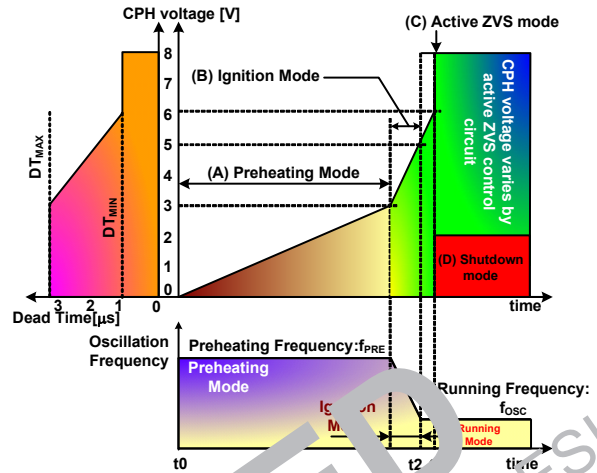

**Figure 19. LCC Transfer Function in Terms of Lamp Impedance**
The transfer function of LCC resonant tank is heavily dependent on the lamp impedance,  $R_L$ , as illustrated in Figure 19. The oscillator in FAN7711 generates effective driving frequencies to assist lamp ignition and improve lamp life longevity. Accordingly, the oscillation frequency is changed in the following sequence:
Before the lamp is ignited, the lamp impedance is very high. Once the lamp is turned on, the lamp impedance significantly decreases. Since the resonant peak is very high due to the high-resistance of the lamp at the instant of turning on the lamp, the lamp must be driven at higher frequency than the resonant frequency, shown as (A) in Figure 19. In this mode, the current supplied by the inverter mainly flows through  $C_P$ .  $C_P$  connects both filaments and makes the current path to ground. As a result, the current warms up the filament for easy ignition. The amount of the current can be adjusted by controlling the oscillation frequency or changing the capacitance of  $C_P$ . The driving frequency,  $f_{PRE}$ , is called preheating frequency and is derived by:
After the warm-up, the FAN7711 decreases the frequency, shown as (B) of Figure 19. This action increases the voltage of the lamp and helps the fluorescent lamp ignite. The ignition frequency is described as a function of  $C_{PH}$  voltage, as follows:
Finally, the lamp is driven at a fixed frequency by an external resistor,  $R_T$ , shown as (C) of Figure 19. If  $V_{DD}$  is higher than  $V_{DDTH(ST+)}$  and UVLO is released, the voltage of  $R_T$  pin is regulated to 4V. This voltage adjusts the oscillator's control current according to the resistance of  $R_T$ . Because this current and an internal capacitor set the oscillation frequency, the FAN7711 does not need any external capacitors.
Even in the active ZVS mode, shown as (D) in Figure 19, the oscillation frequency is not changed. The dead-time is varied according to the resonant tank characteristic.